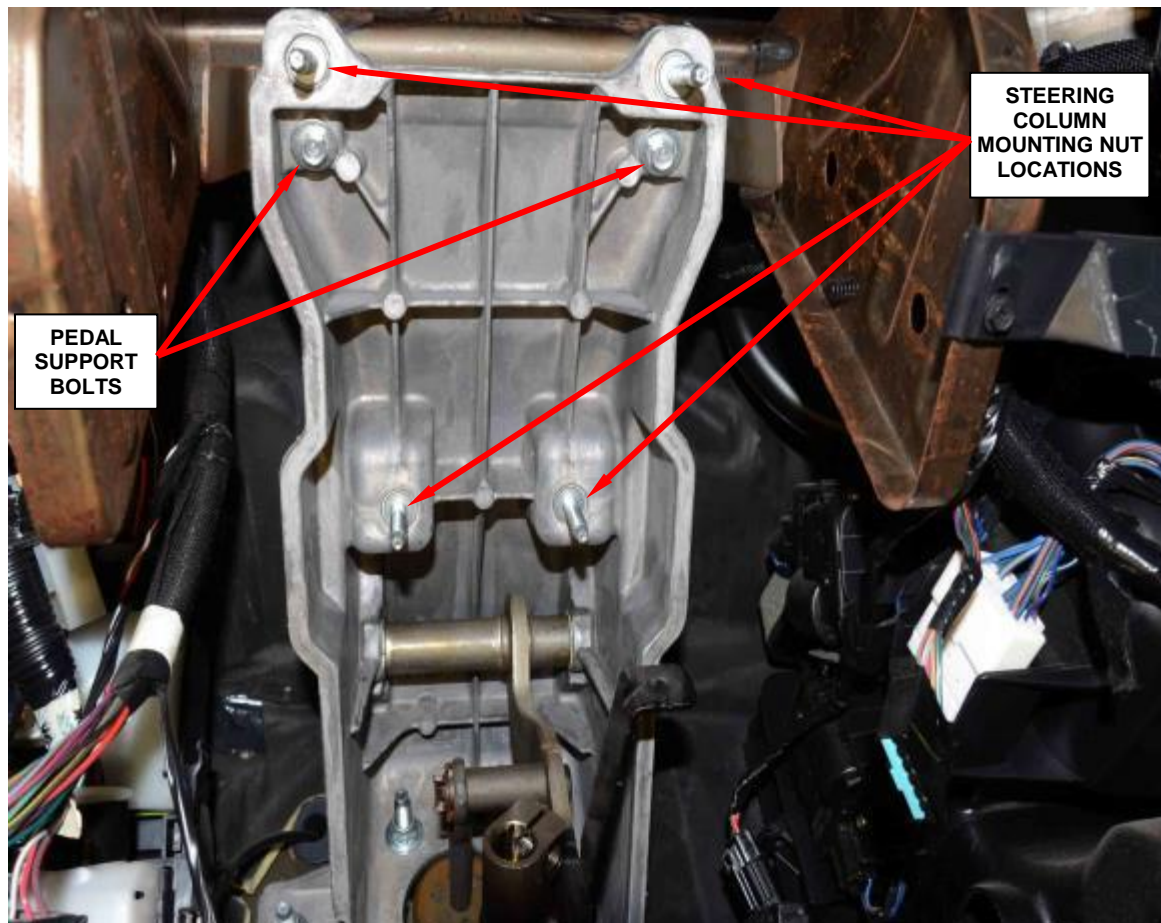

Figure 77 – Pedal Support Bolts
18. Remove the bolts from the pedal support (Figure 77).